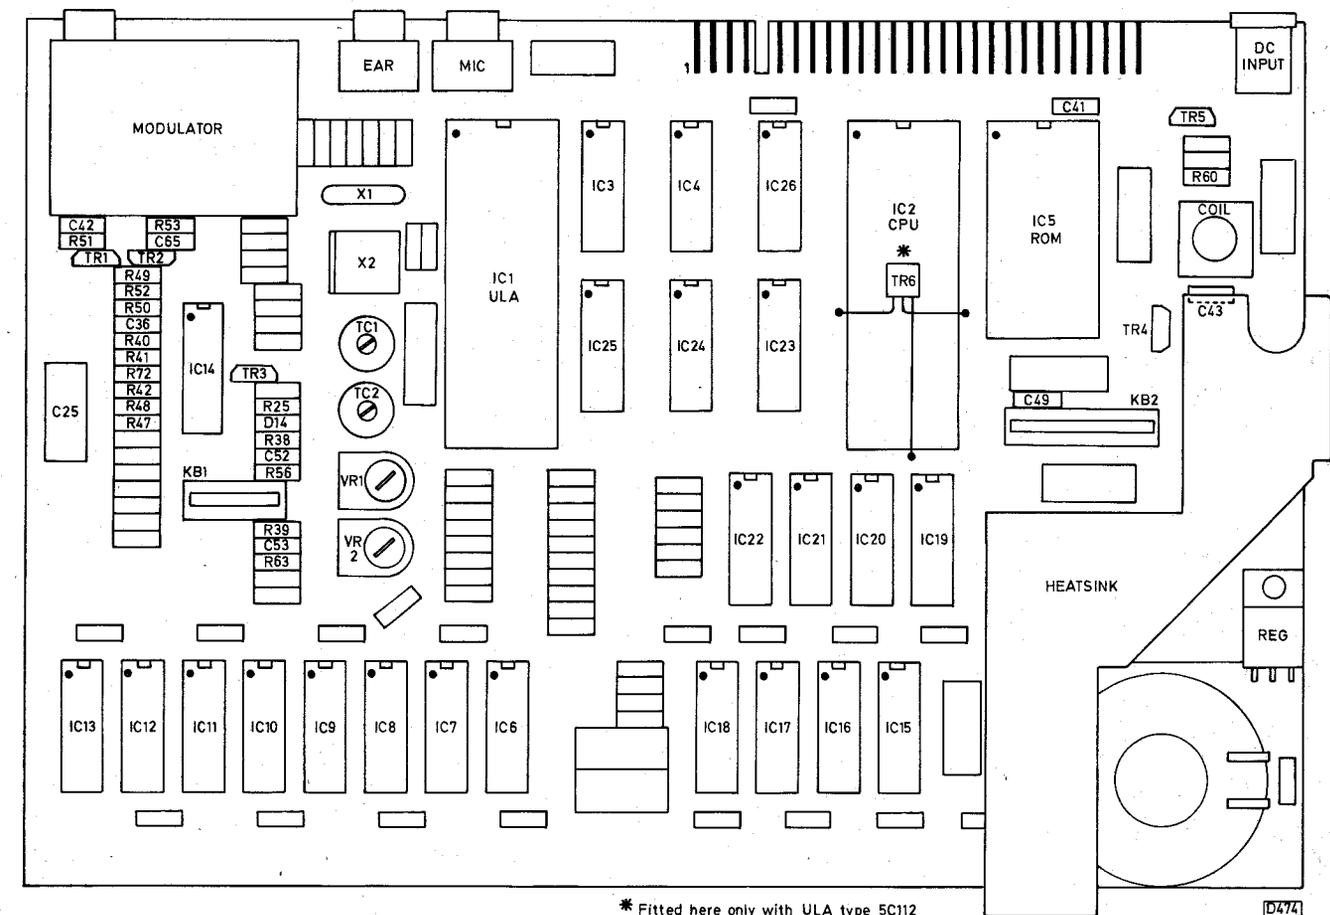
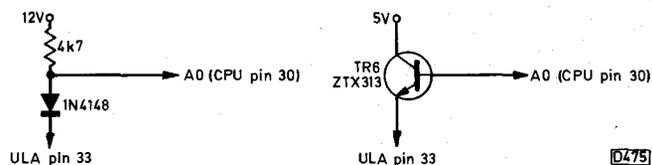

Fig. 8: Layout of the issue 2 board.
Fig. 9: Modifications associated with pin 33 of IC1: early version left, later version right.
The issue 1 and 2 versions have a lot in common. They both have the early zigzag shaped heatsink, and both have small trimmer capacitors and preset potentiometers for setting up the colour generator circuits. The issue 2 board layout is shown in Fig. 8. The issue 1 differs only in the design of the original 32K extension memory, which isn't assembled on the main board as with all later versions. Instead, it's built on a plug-in board that carries the memory i.c.s and the decoders and multiplexers. This daughter board plugs into two DIL sockets at the rear of the main board and extends right across from the modulator to the coil. To accommodate this, the CPU and the multiplexer chips IC3/4 are moved towards the front of the main board along with the ULA and ROM chips, leaving a clear space into which the extension memory board fits. If this space isn't filled the machine isn't worth very much, since the extension is no longer available and without it the majority of the commercial programs cannot be used.
TR6 which replaced the previous diode/resistor network – see Fig. 9. As you can see from Fig. 8, TR6 is mounted across the top of the CPU i.c. Later versions of the issue 2 board have the current 6C001 ULA chip: this necessitated some resistance changes which are detailed in (4) of the issue 2 modification instructions.
Now to issue 2 boards. Like the modifications given for the issue 1 version these should be made whenever possible. Fig. 8 shows the positions of the components.
From the servicing point of view the advice given for issue 3 versions applies in general to issue 1 and 2 versions. There's one exception. There are four presets (TC1, TC2, VR1 and VR2) that may need setting up if any changes have been made. Their positions are shown in Fig. 8 and their functions are as follows.
VR1 and VR2 are the only controls that may present difficulties. They affect the phasing of the colour-difference signals and are interactive in their effect on the display. Take particular care when dealing with issue 1 models because although the controls are in the same positions and are marked as shown in Fig. 8 the connec-